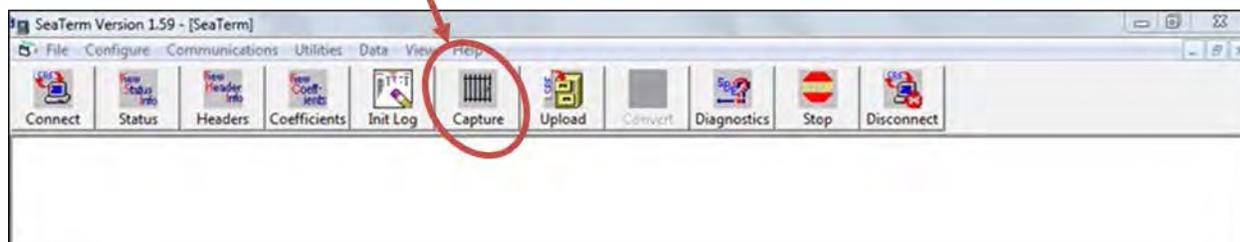

Figure 21. SeaTerm software with the Capture button highlighted.
3. Click on the **Capture** button or go to menu **Communications** and select **Capture to File...** (Figure 21).